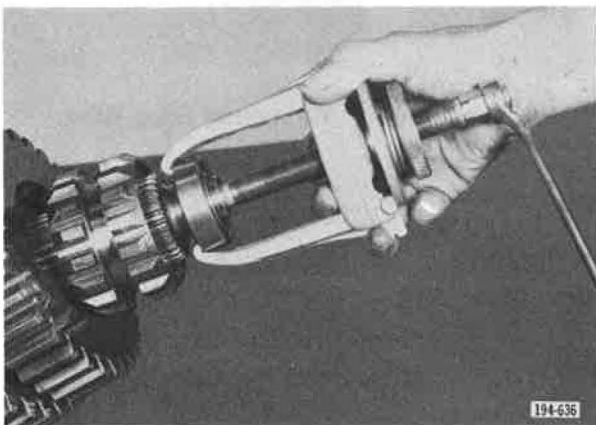

Figure 5-300. Removing Bearing
2. Remove front mainshaft front spigot bearing using tool CG-250. See Figure 5-300.